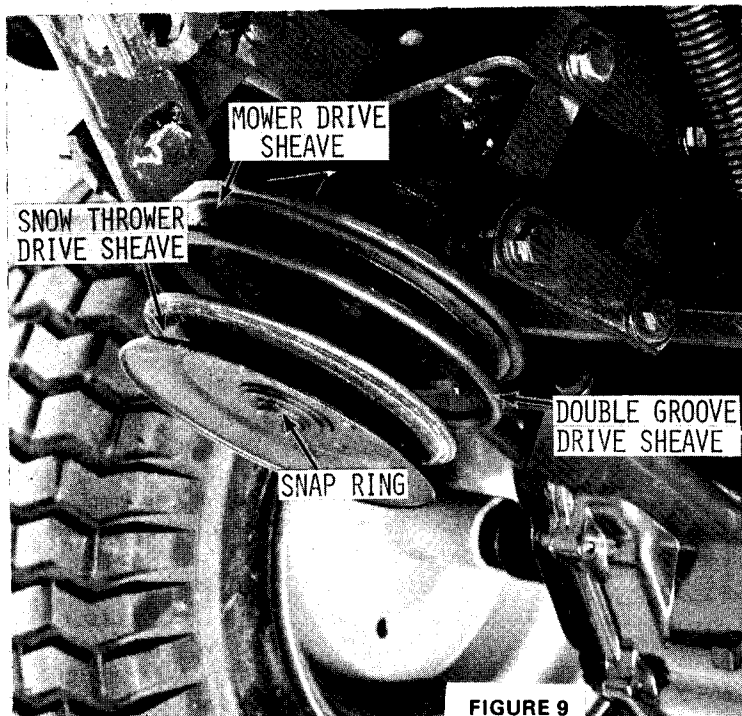
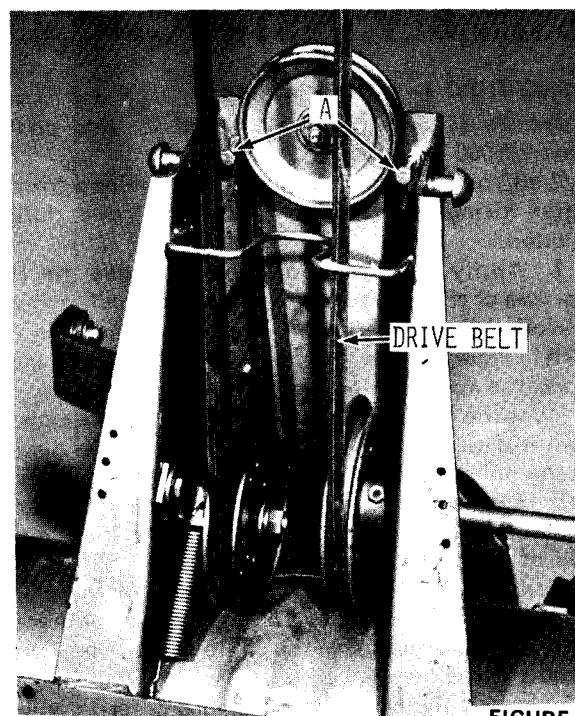

FIGURE 9
FIGURE 11
6. Remove the single groove mower drive sheave from under the tractor and replace with the double groove drive sheave as shown in Figure 9. Secure with the square key and snap ring installed on the original sheave.
8. Loosen belt guides A, Figure 11, and install the drive belt as shown. After installing the belt move belt guides to a position 1/8" from sheave edge and belt when belt is tight and secure the locking nuts.
5. Check belt to be sure it is still in position as shown in Figure 11. Install belt onto sno-thro sheave, Figure 9, on the tractor.